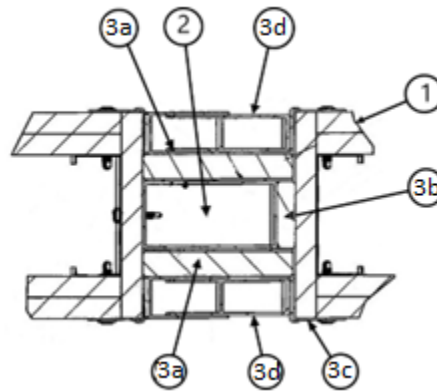

Figure 1. Joint Cross Section
- 2. ALUMINUM EXTRUSION:** Use a continuous length of 2 in. deep rectangular aluminum tube with minimum 0.125 in. wall thickness. See Table 2 for width. The width shall be sized to create a 1/2 in. wide space between the aluminum extrusion and the adjacent wall. Fasten the extrusion to the supporting construction framing as shown in Figure 1 using minimum No. 10 screws spaced maximum 12 in. on center (oc).
D. Mullion Mate® PRO, FR: Install continuous length of spring-loaded expandable units on both sides of the joint as shown in Figure 1. Remove paper backing from the adhesive strips on the sides and expand the units into place per the manufacturer's installation instructions.